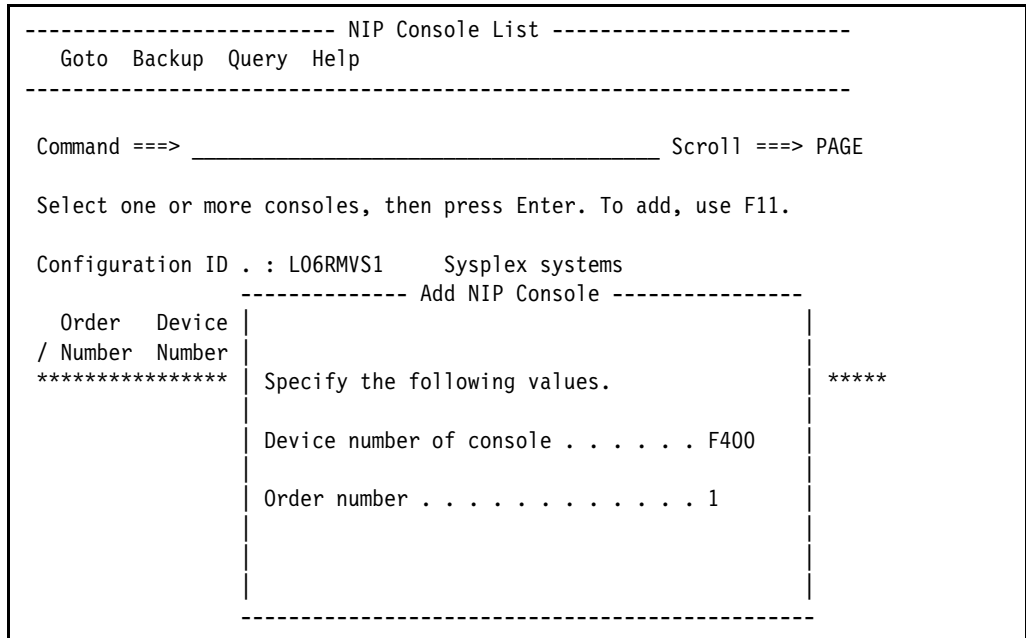

Figure 14-72 HCD: Add Device for OSC (part 1 of 3)
- c. If you use this device as a NIP console, then it must be defined in the NIP Console List (see Figure 14-72 on page 690).